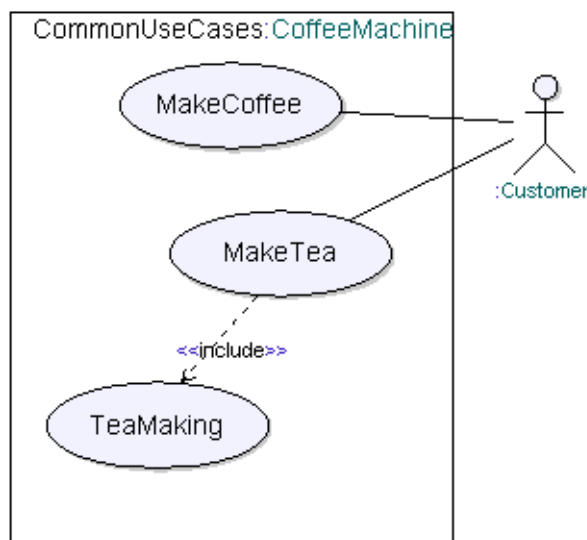

Figure 11: Use cases in a subject frame
4. Create a **subject symbol** around the use cases. After selecting the symbol in the toolbar, drag to enclose the use case symbols with the subject symbol. Name the frame and identify the frame to belong to class CoffeeMachine. See Figure 11 on page 21.